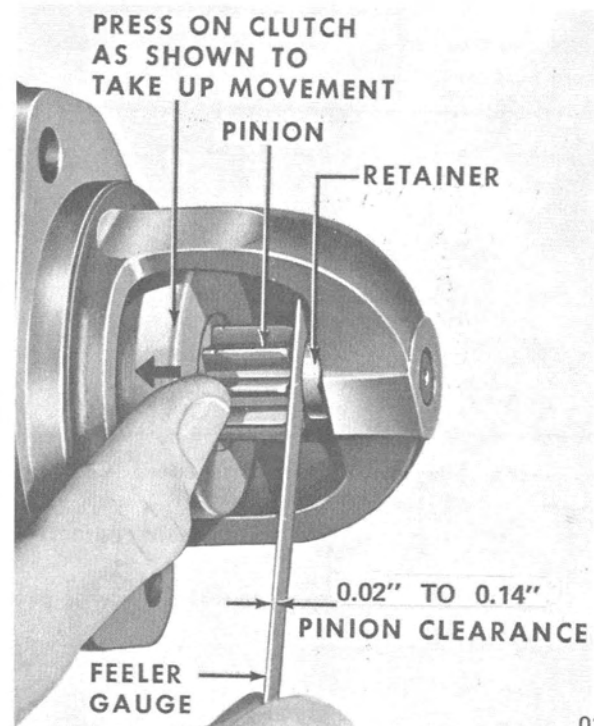

Figure 3. Checking Pinion Clearance
- d. Check clearance between pinion end and pinion stop collar with solenoid being operated as in "a" above. Clearance should be from 0.02" to 0.14". (Figure 3) If it is not within specified limits, adjust solenoid plunger length or replace pinion.